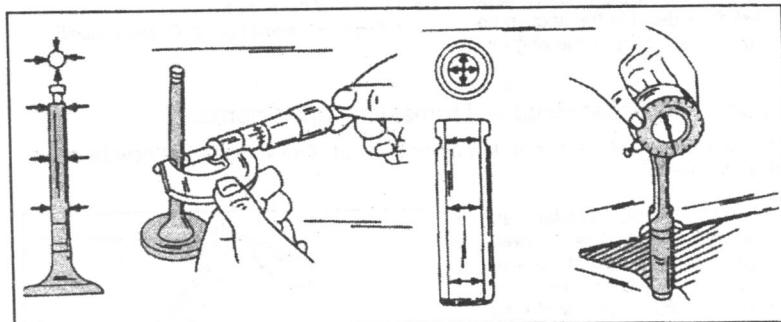

Fig. 1.51. — Measuring the valve stem diameters on the left and the internal diameters of the valve guides on the right.
Check the valve stem diameters and in this connection the inside diameters of the valve guides. Professional tools required are a micrometer and an internal precision gauge. Fig. 1.51 shows how the valve stems and the valve guide bores are measured and where the measurements should take place. If there is a deviation from the nominal values, it may be necessary to replace the valve guides (see below). Also check the end of the valve stems. There should be no visible wear in this area. Valve ends can be re-ground to a maximum value.
**Valve Guides:** Measure the inside diameter of the guides, as shown on the R.H. side in Fig. 1.51. As an inside micrometer is necessary for this operation, which is not always available, you can insert the valve into its guide and withdraw it until the valve head is approx. level with the cylinder head face. Rock the valve to and fro and check for play. Although no exact values are available, it can be assumed that the play should not exceed 1.0 - 1.2 mm (0.04 - 0.047 in.).